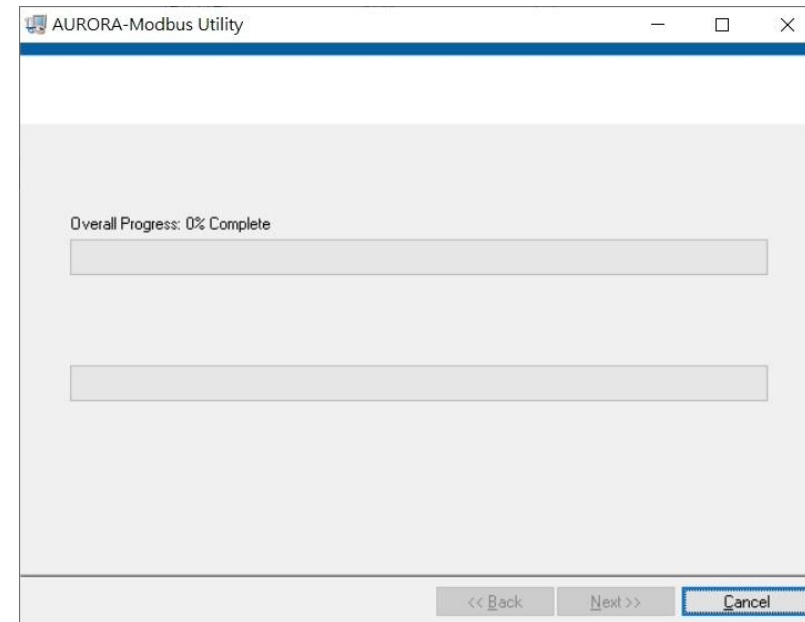

Figure1-10 Aurora Modbus Utility Installation Ready Screen
Step 5: Monitor setup progress until completion (Figure1-10).